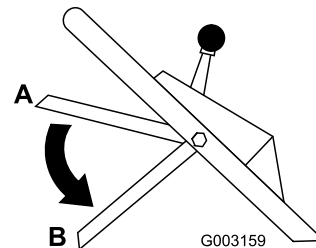

Figure 18
10. Release the control bar; refer to position B in Figure 18. You should hear a “bang.” The blade should stop in 3 seconds.
2. Move the control bar down to its lowest position (Position B in Figure 18).